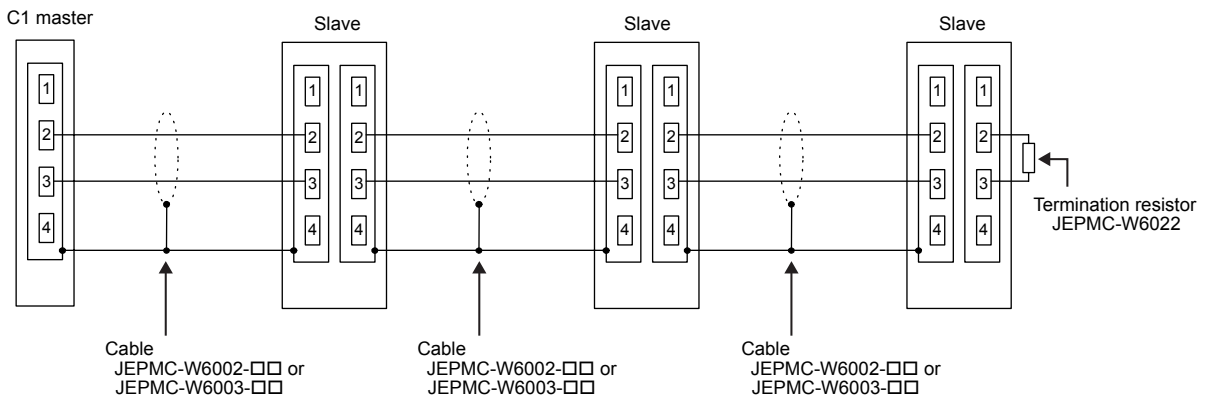

Fig. 3.2 Wiring example
- Use the recommended cable (JEPMC-W6002-□□ or JEPMC-W6003-□□) to connect the connectors of each station. Figure 3.2 shows an example of wiring.
If C1 master has a built-in termination resistor, only one end of the network must have a termination resistor. Figure 3.2 shows an example where the C1 master has a built-in termination resistor.